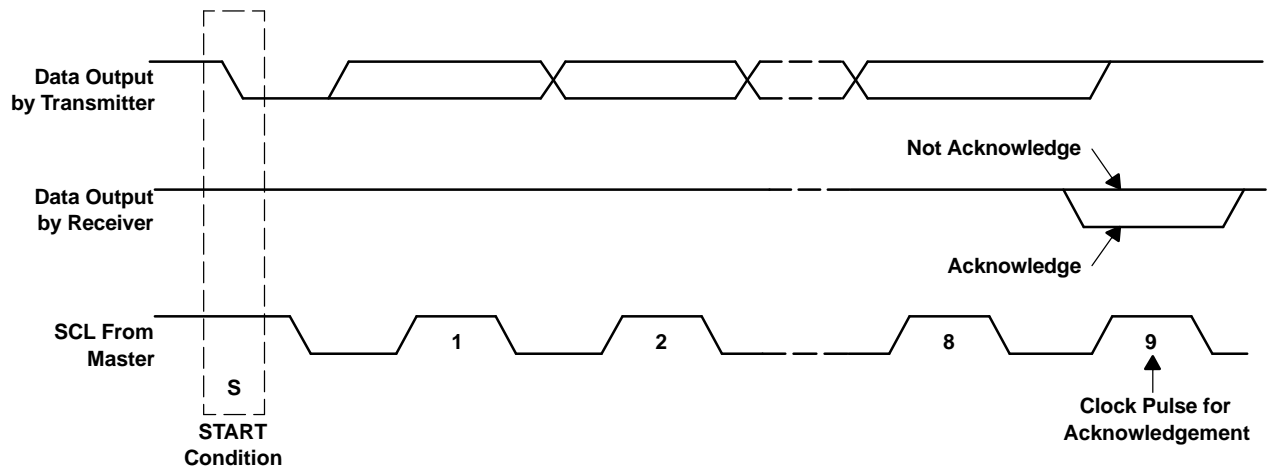

Figure 41. Acknowledge on the I2C Bus
- The addressed *Slave* responds by pulling the SDA pin low during the ninth clock pulse, termed the *Acknowledge* bit (see Figure 41). At this stage all other devices on the bus remain idle while the selected device waits for data to be written to its shift register.